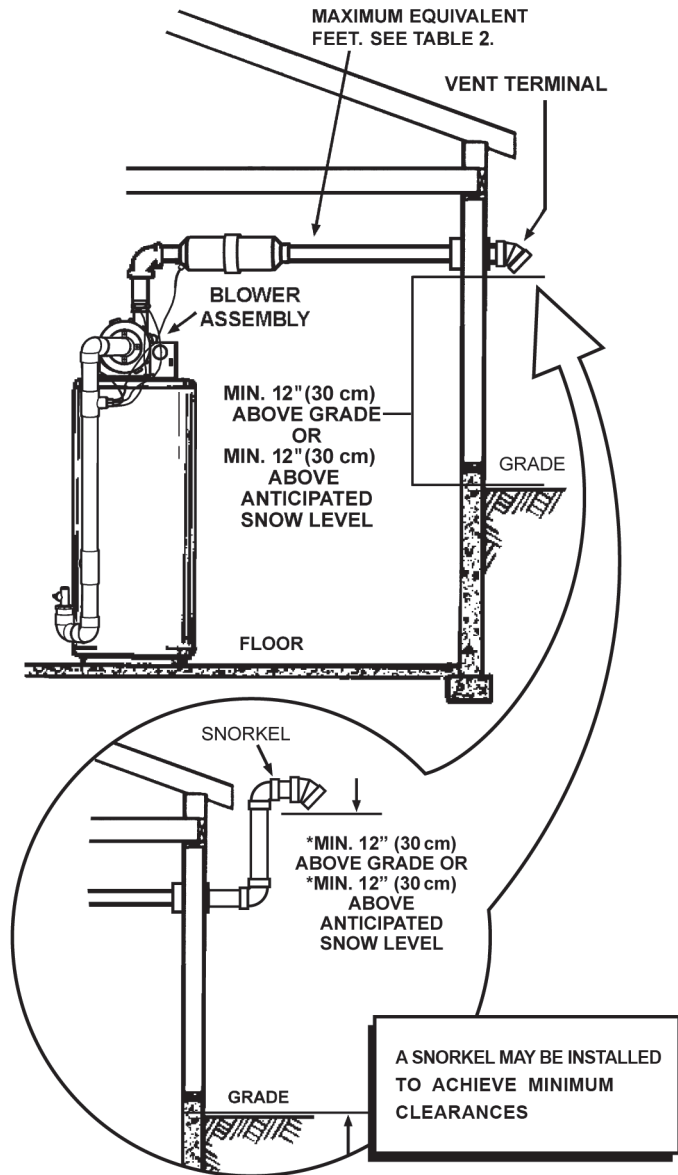

FIGURE 20
If necessary to achieve the 12" minimum clearance above the highest anticipated snow level, install a snorkel as shown in bottom portion of Figure 20.
1. Vent Termination must extend a minimum of 12 inches (30 cm) above roof or 12 inches (30 cm) above the anticipated snow level to prevent blockage of the vent termination, as shown in Figures 20 and 21.